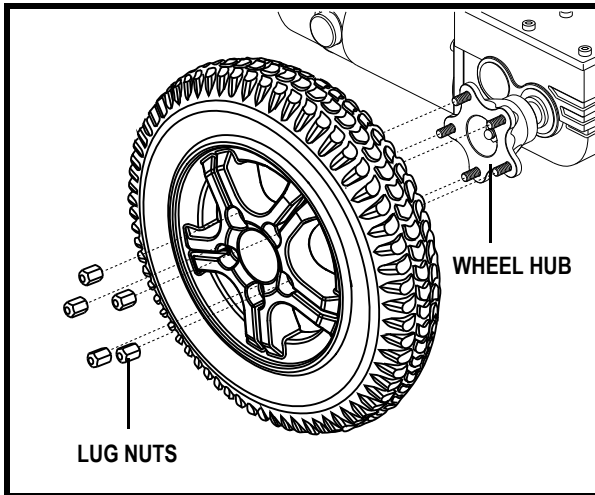

Figure 25. Quantum 6000 Drive Wheel
4. Remove the (5) lug nuts from the wheel hub. See figure 25.